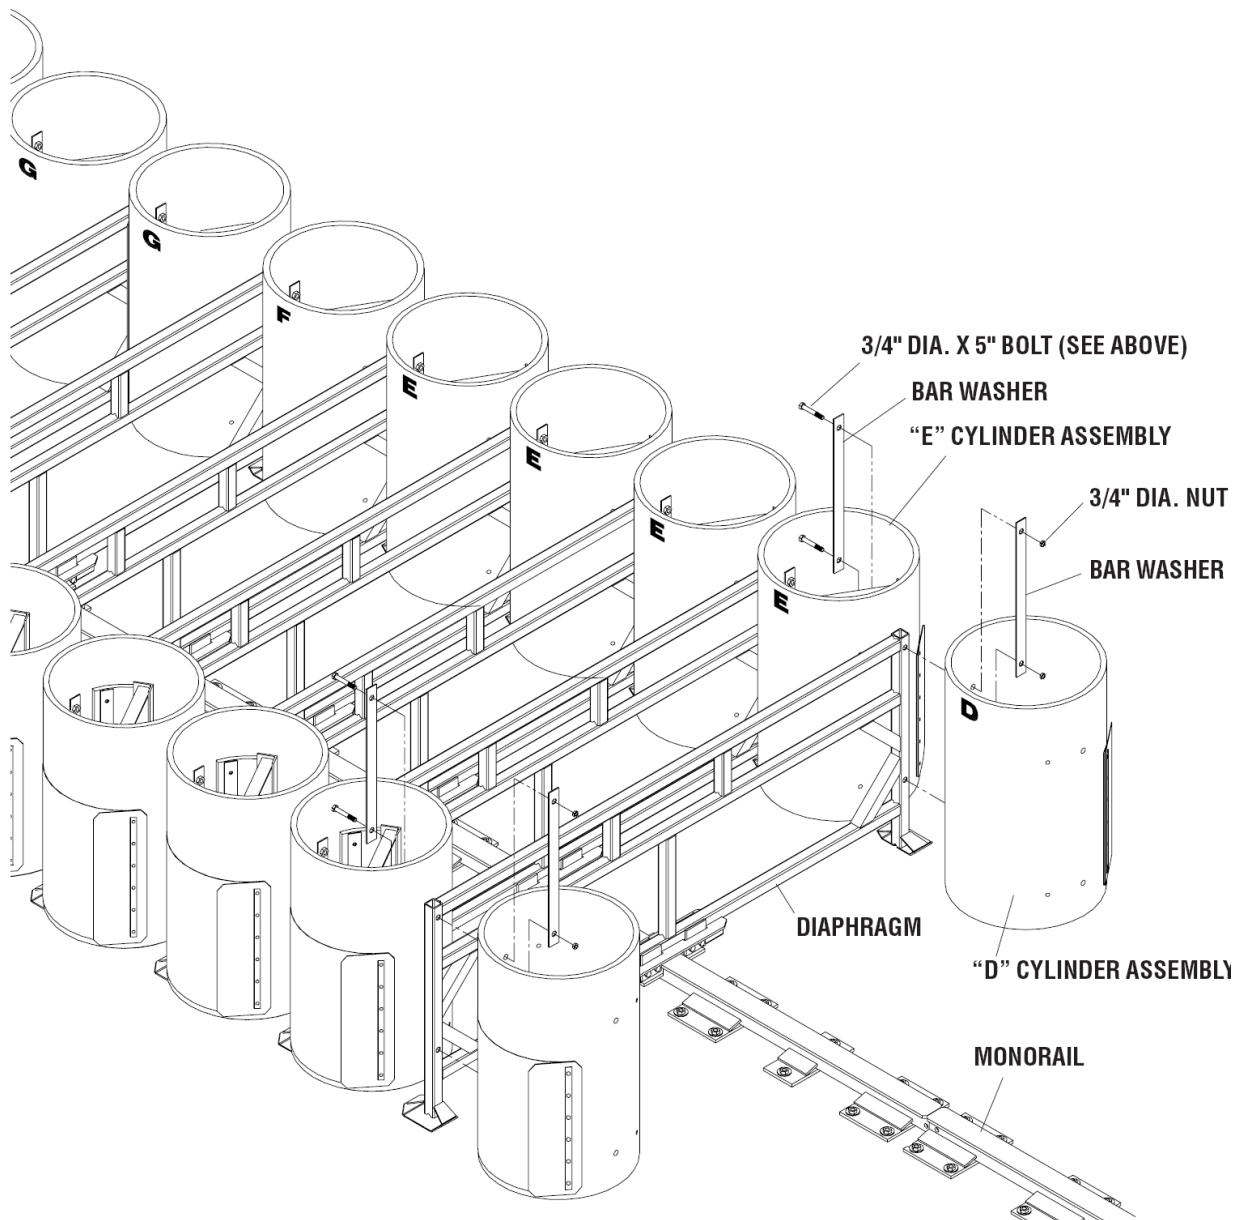

Figure 27
3. Reassemble "D" Cylinder/Diaphragm Assembly onto "E" Cylinder Assemblies as shown in Figure 27.